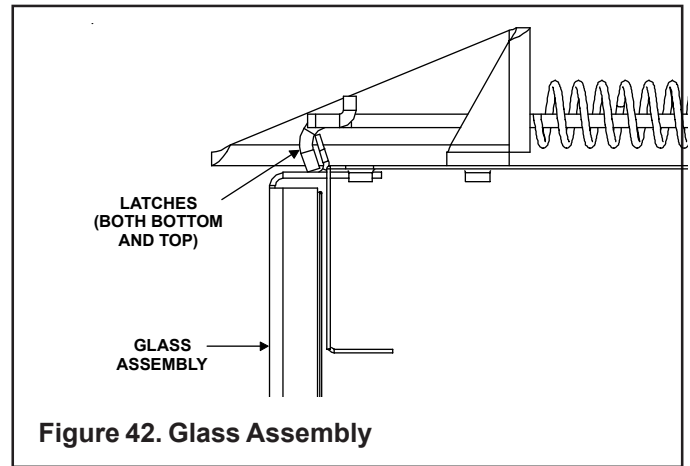

Figure 42. Glass Assembly
- Pull the four glass latches out of the groove on the glass frame. Remove glass door from the unit (see Figure 42).